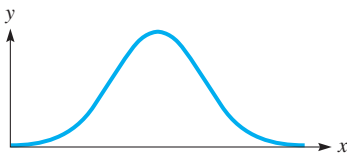

Fig. 22.6
The **normal distribution** is associated with the symmetric, bell-shaped curve shown in Fig. 22.6. Using advanced methods, its equation is found to be
- The curve is bell-shaped, as seen in Figs. 22.6–22.8.